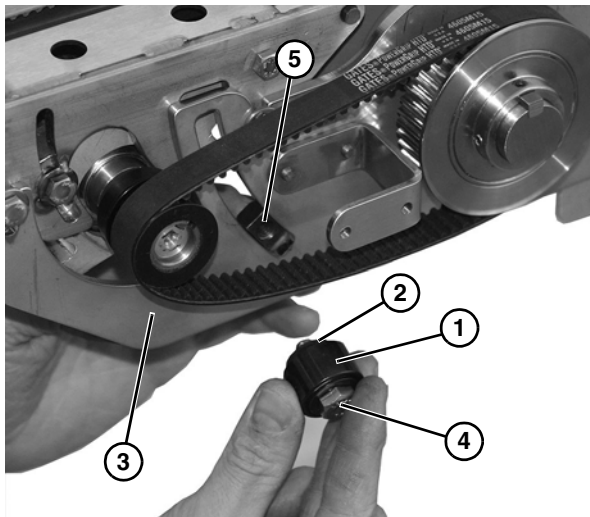

Figure 17
15. Install tensioner (Figure 17, item 1) with washer (Figure 17, item 2) onto bracket (Figure 17, item 3) with screw (Figure 17, item 4) and nut (Figure 17, item 5).